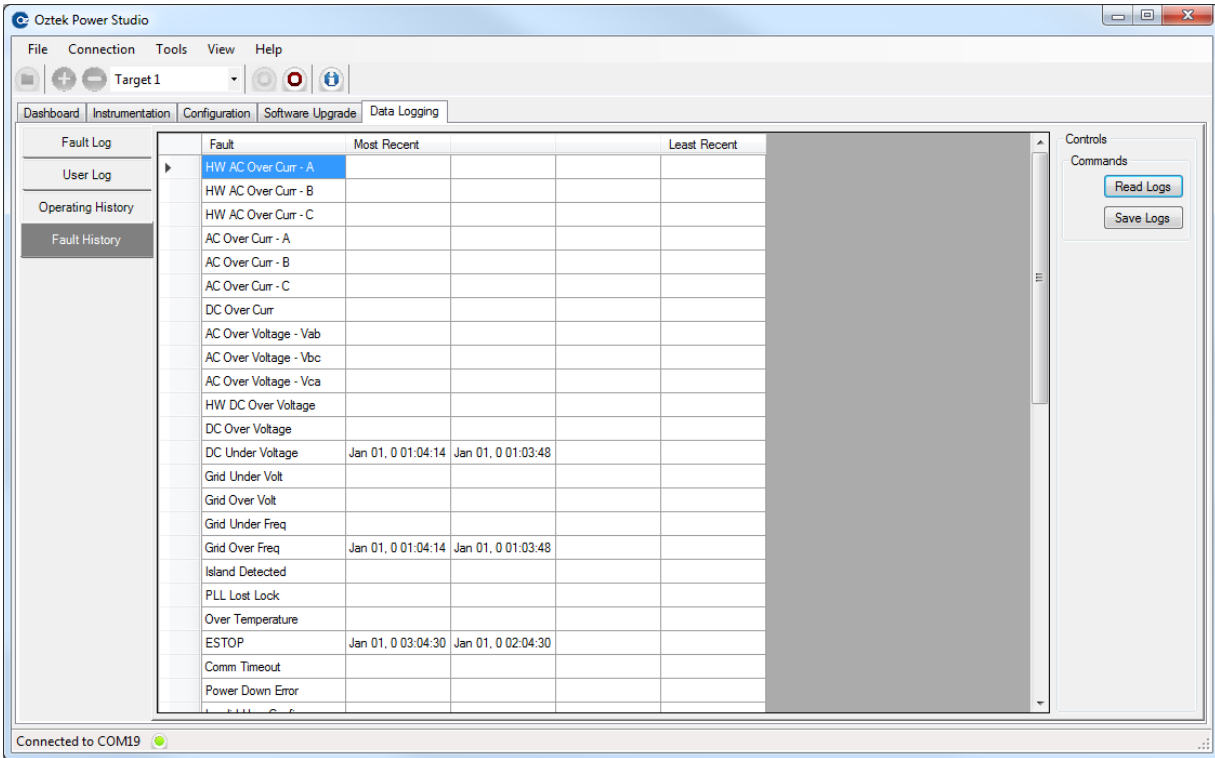

Figure 5 - Fault History Log
- Figure 5 - Fault History Log 7